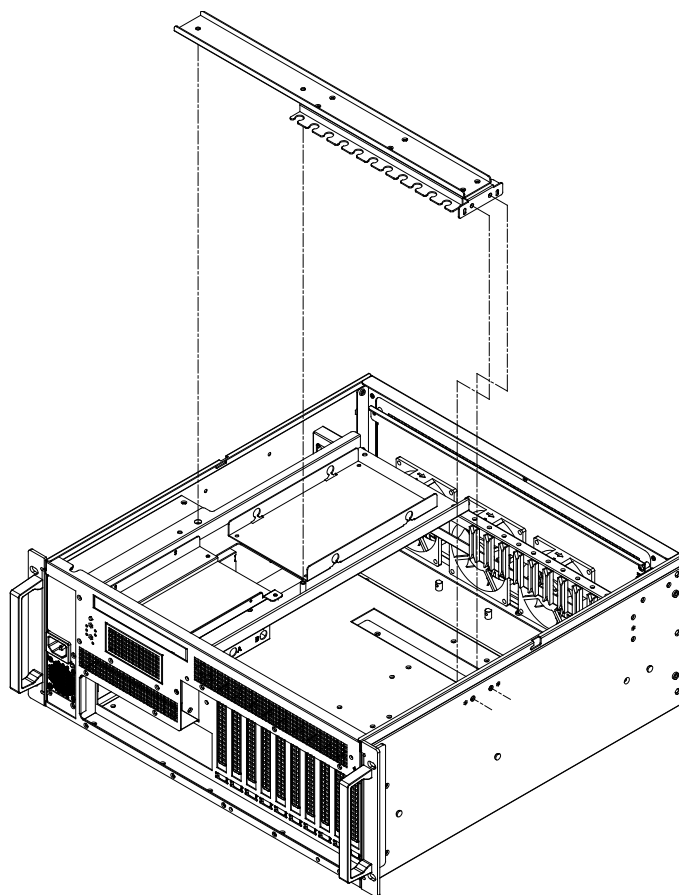

Figure 2.19 Remove Hold-on bar/ 卸除槽杆 / 卸除槽桿
1. To install the PCIe expansion card, please release the hold-on bar at first. See Figure 2.19.